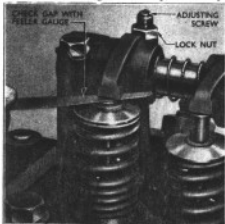

Fig. 12.
4. Inlet valves should be set with a clearance of .015 in. (.38 mm.) and exhaust valves with a clearance of .012 in. (.304 mm.). Rotate the engine until No. 1 valve (numbered from the front end of the engine) is fully closed and check the clearance between the valve rotator cap and the rocker arm with a feeler blade. (See Fig. 12).